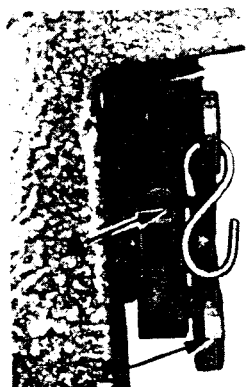
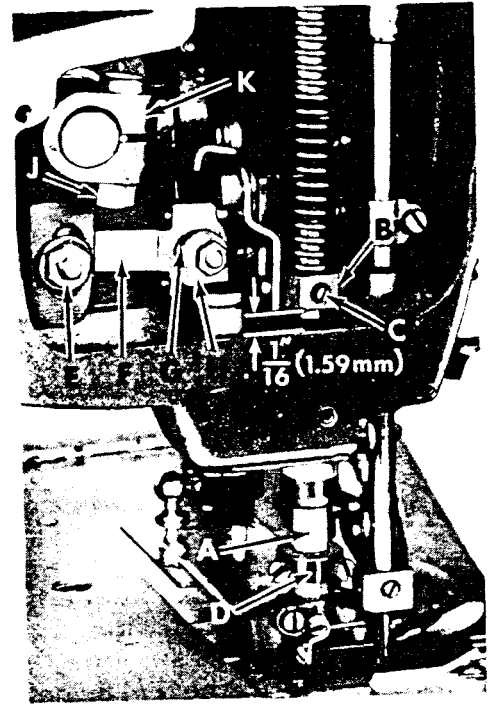

Fig. 13
Fig. 14
If adjustment is needed, loosen tension release lever screw (A, Fig. 13), located at the back of the machine and move tension disc separator as required. Retighten screw. After adjustment there should be no binding at any point.
The height of the presser bar (A, Fig. 14) is set correctly if it is possible to remove the presser foot when the foot lifter lever (B, Fig. 13) is fully depressed. Also there should be approximately 1/16 inch (1.59 mm) clearance between lower surface of the presser bar connection and guide (B, Fig. 14) and the bottom surface of head opening in the bed when the foot lifter lever is released and the presser foot resting on the throat plate, with the feed dog down below the throat plate.
Set the presser bar collar (D, Fig. 14) so that the presser foot does not contact the spreader when raised.
Set the arc travel of the spreader, as listed below, by loosening nut (E, Fig. 14) and moving the connecting link (F) up or down to the desired amount of arc travel. Measurement of the spreader arc travel is made by placing a scale between the two extreme spreader arc travel points.
Set the ball stud (G, Fig. 14) in the spreader holder carrier (H) square to the front of the bed when at the middle of its travel as viewed in Figure 14. This is accomplished by loosening nut (J) and moving the spreader rocker shaft arm (K) to position the carrier properly.